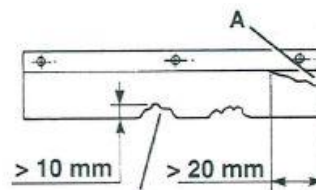

Figure 15
5. Check whether the distance between polyurethane side guard plate and ground is within the range of 0-3 mm (A, figure 15). If necessary, adjust the height of the baffle to meet the requirements.